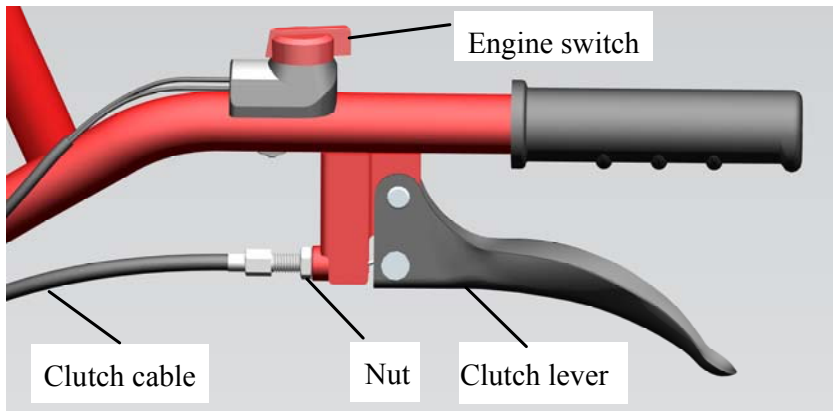
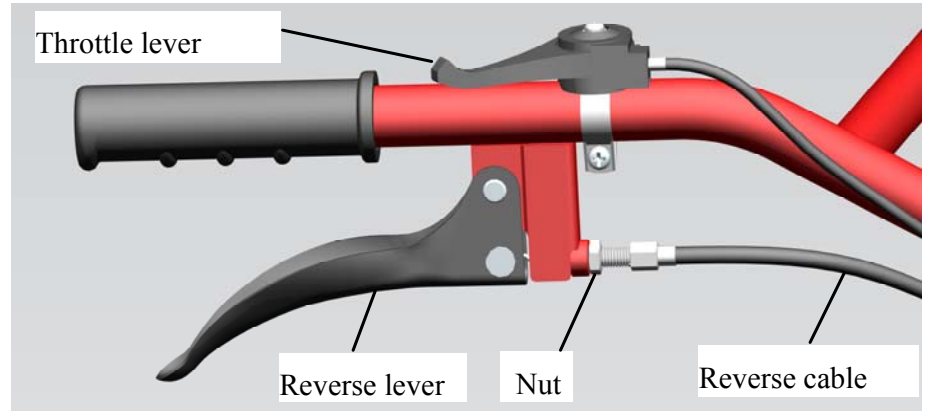
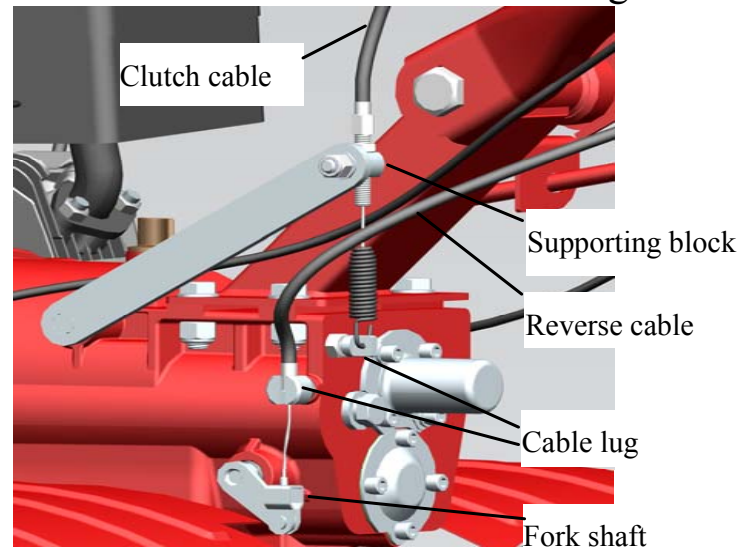

Figure 2
Figure 3
Figure 4
1. Adjustment of clutch cable (see Figure 2 and Figure 4).
2. Adjustment of reverse cable (see Figure 3 and Figure 4)